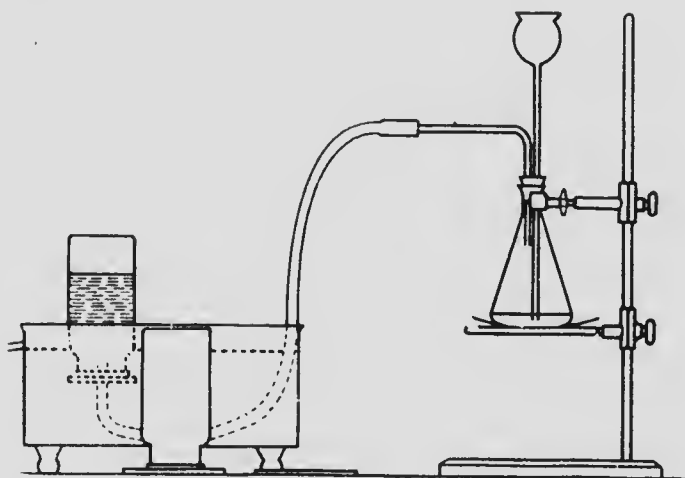

FIG. 28.
**Sketches.** Figs. 28, 30, 31.
**Experiments.** Weigh 15 grms. of zinc, hold the flask horizontally and carefully slide the zinc into the flask. **The flask will break if the zinc is dropped into it.** Set up the apparatus as shown in Fig. 28. By means of the graduate, measure 50 cc. of **dilute sulphuric acid** and